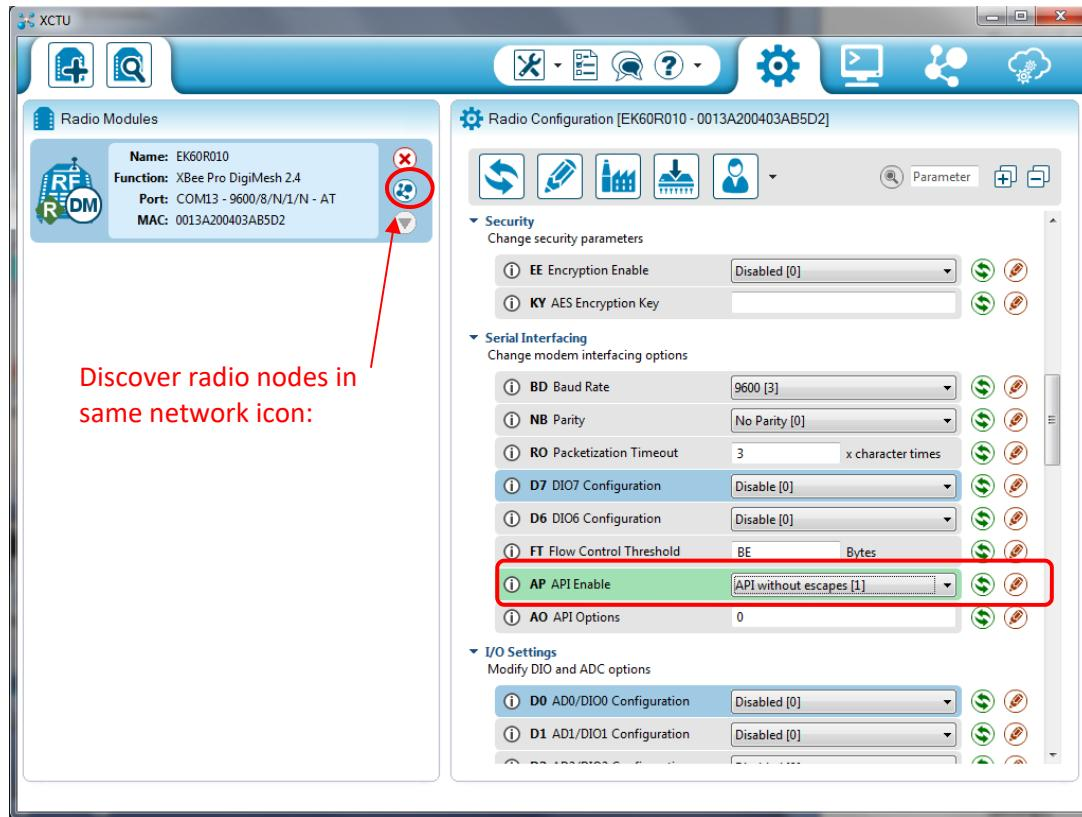

Figure 41: Radio configuration.
- g. The selected transceiver will appear in the main XCTU window in the left column. Click on this device, and the transceiver's parameters will begin loading on the right side of window (Figure 41). Using the scroll bar on the right side of the window, scroll down the parameter list until you get to the “Serial Interfacing” portion of the transceiver’s parameter list. Locate the “AP API Enable” parameter under the Serial Interfacing section. In normal EchoCal operation, this parameter should be set to “Transparent Mode [0]”. Click on this parameter to change the setting to “API without escapes [1]”. This parameter will turn GREEN, indicating that a change was made to this parameter. Click on the red “Pencil” icon to the right of this parameter to save it to the transceiver. Once the “Pencil” icon is selected, the change will be written to the transceiver, and the parameter will turn BLUE in the window. This change needs to be made to allow the transceiver to query other devices on the network about their configuration settings. Information about these modes can be found on page 47, “Serial Modes” of the XBee®-PRO 900HP/XSC RF Modules S3 and S3B User Guide.